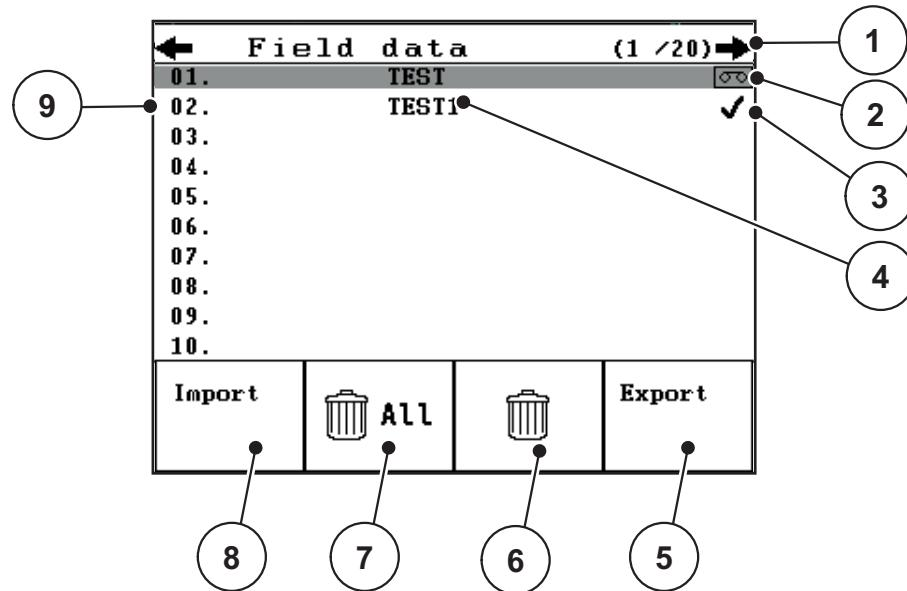

Figure 4.30: Field data menu
2. Press **F1** function key (see figure 4.30).
2. Press **F4** function key (see figure 4.30).
3. Press the **F3** function key under the **Delete** icon (see figure 4.30).
2. Press the **F2** function key under the **Delete all** icon (see figure 4.30).